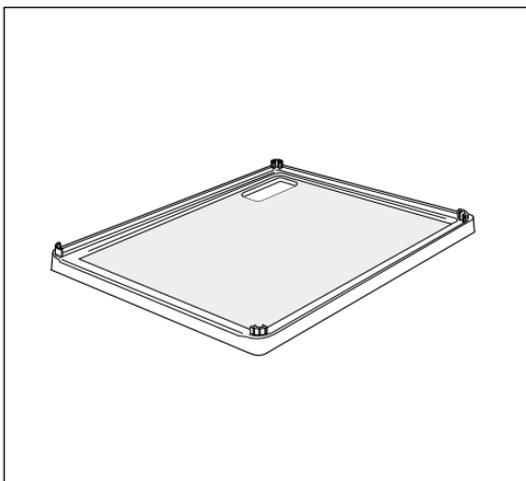

Fig 4.0
1. Fig 4.0-Ensure that the shower tray is placed on the floor and is level along its length and width.